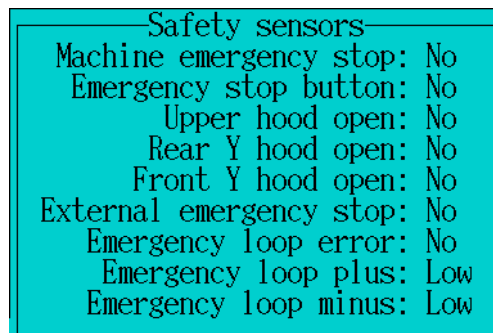

Figure 15-2. Safety sensors information box.
3. All safety signals are shown in the *Safety sensors* information box. See Figure 15-2.